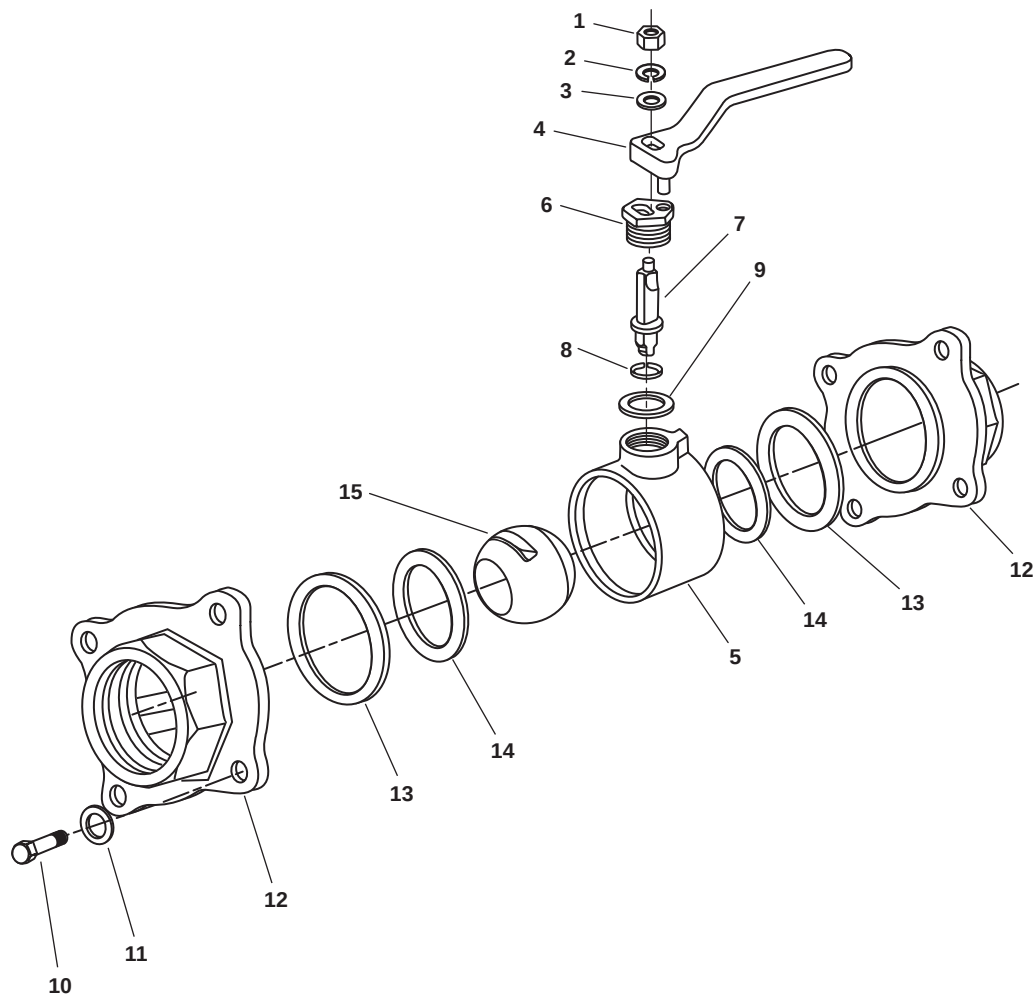

Figure 1. Threaded Ball Valve
1. Remove the nut (figure 1, item 1), the lockwasher (figure 1, item 2), the flat washer (figure 1, item 3) and the handle (figure 1, item 4) from the valve body (figure 1, item 5).
2. Remove the retainer (figure 1, item 6) the valve stem (figure 1, item 7) and the retainer packing (figure 1, item 8) from the valve body (figure 1, item 5). Discard the retainer packing.
3. Remove the packing (figure 1, item 9) from the valve body (figure 1, item 5). Discard the packing.
4. Remove the four bolts (figure 1, item 10) and flat washers (figure 1, item 11), and separate the end fittings (figure 1, item 12) from the valve body (figure 1, item 5).
5. Remove the packing (figure 1, item 13), the valve seats (figure 1, item 14) and the ball (figure 1, item 15) from the valve body (figure 1, item 5). Discard the packing and valve seats.
3. Install new packing (figure 1, item 13), new valve seats (figure 1, item 14) and the ball (figure 1, item 15) in the valve body (figure 1, item 5), and secure them with the four bolts (figure 1, item 10), flat washers (figure 1, item 11), and the end fittings (figure 1, item 12).
4. Install new packing (figure 1, item 9) in the valve body (figure 1, item 5).
5. Install the valve stem (figure 1, item 7) and new retainer packing (figure 1, item 8) in the valve body (figure 1, item 5), and secure them with the retainer (figure 1, item 6).
6. Install the handle (figure 1, item 4) on the valve body (figure 1, item 5), and secure it with the nut (figure 1, item 1), a new lockwasher (figure 1, item 2) and the flat washer (figure 1, item 3).